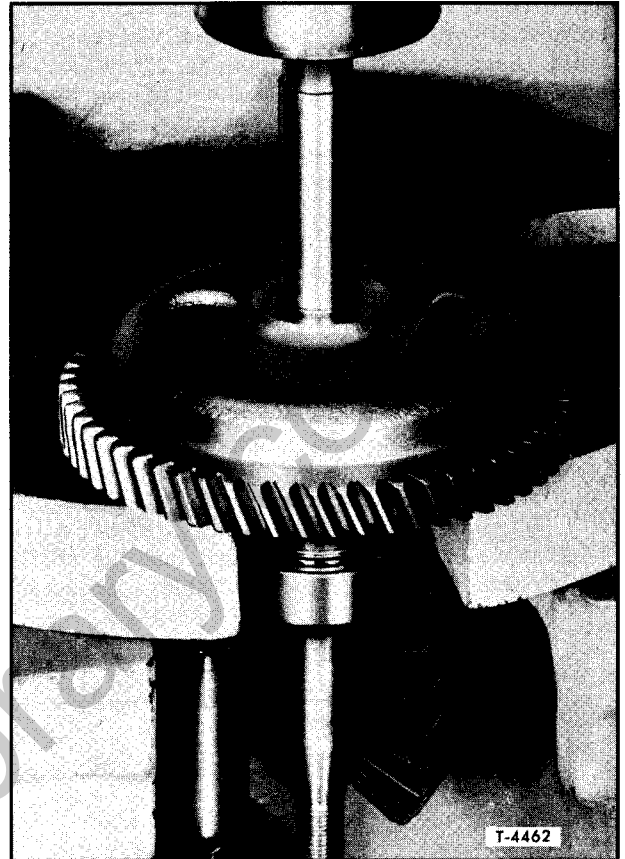

Figure 42—Pressing Shaft Out of Gear
6. Place the gear on the bed of an arbor press with the shaft extending downward, then place a short piece of 5/8" diameter bar stock between the shaft and ram of the press and press the shaft out of the gear as shown in figure 42.